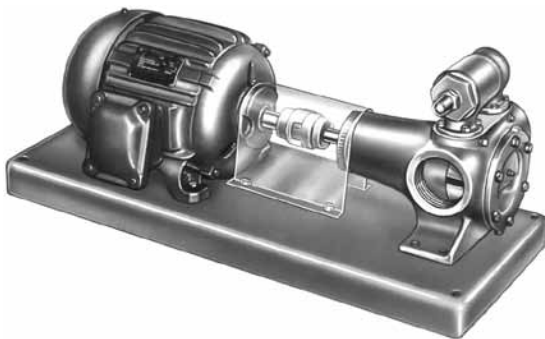

FIGURE 7
4. Make a final check on alignment after piping is hooked up. See item 13 under "Installation - Piping." Figures 7, 8, and 9 show typical units - direct, gear reducer and V-belt drive.